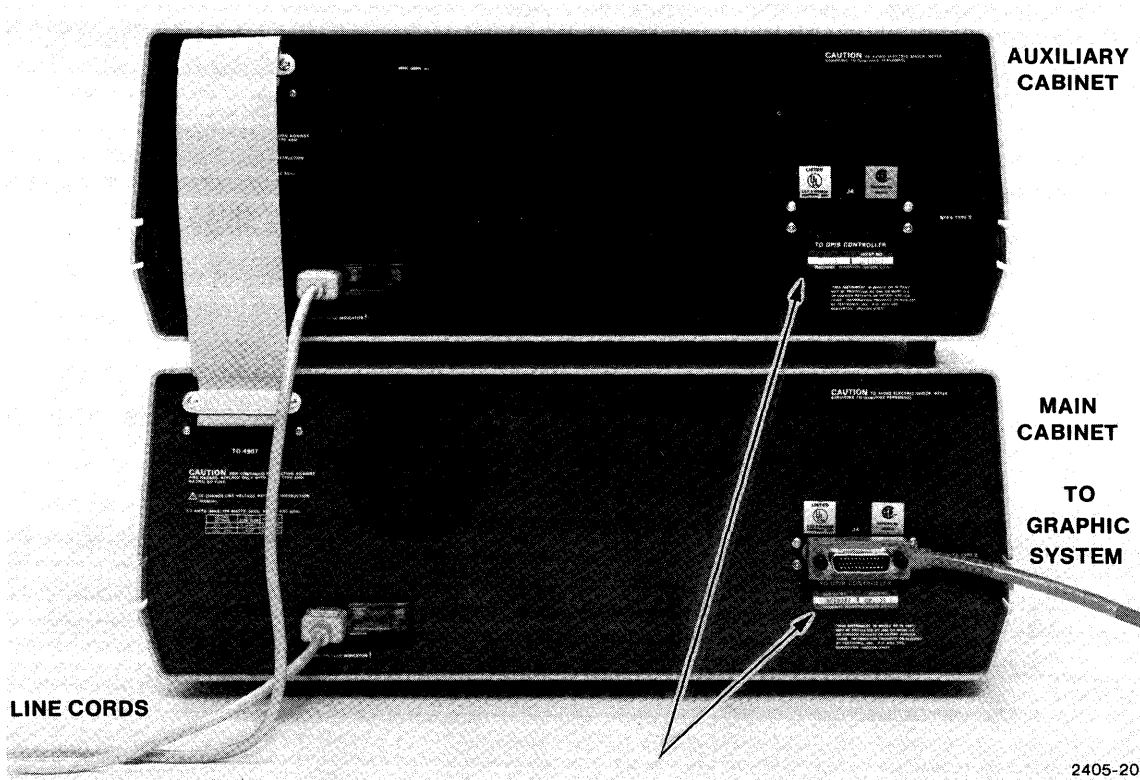

Figure 1-4. Rear Panels; OPTION 30/31 Systems.
2. Verify that the 405X (with the proper ROM Pack inserted), the 4907 Main Cabinet, and the Auxiliary Cabinet (if any) are all connected via GPIB or ribbon cables as indicated by Figure 1-4. (If the 4907 is used with a 4051, the 4051 must contain level 5 firmware.)